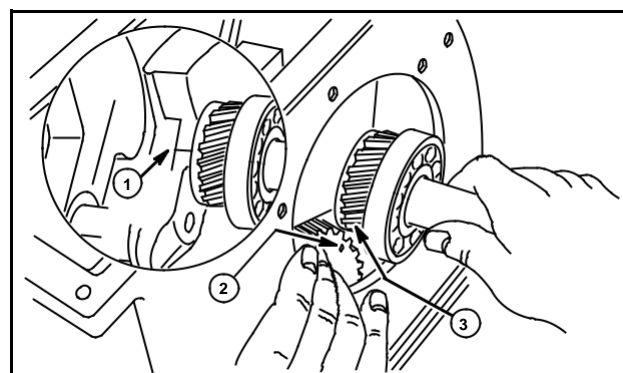

Fig. 21
1. Mark top of tooth (3) with chalk or crayon.
2. Align timing marks and install crankshaft, using care not to damage crankpin, Fig. 21.